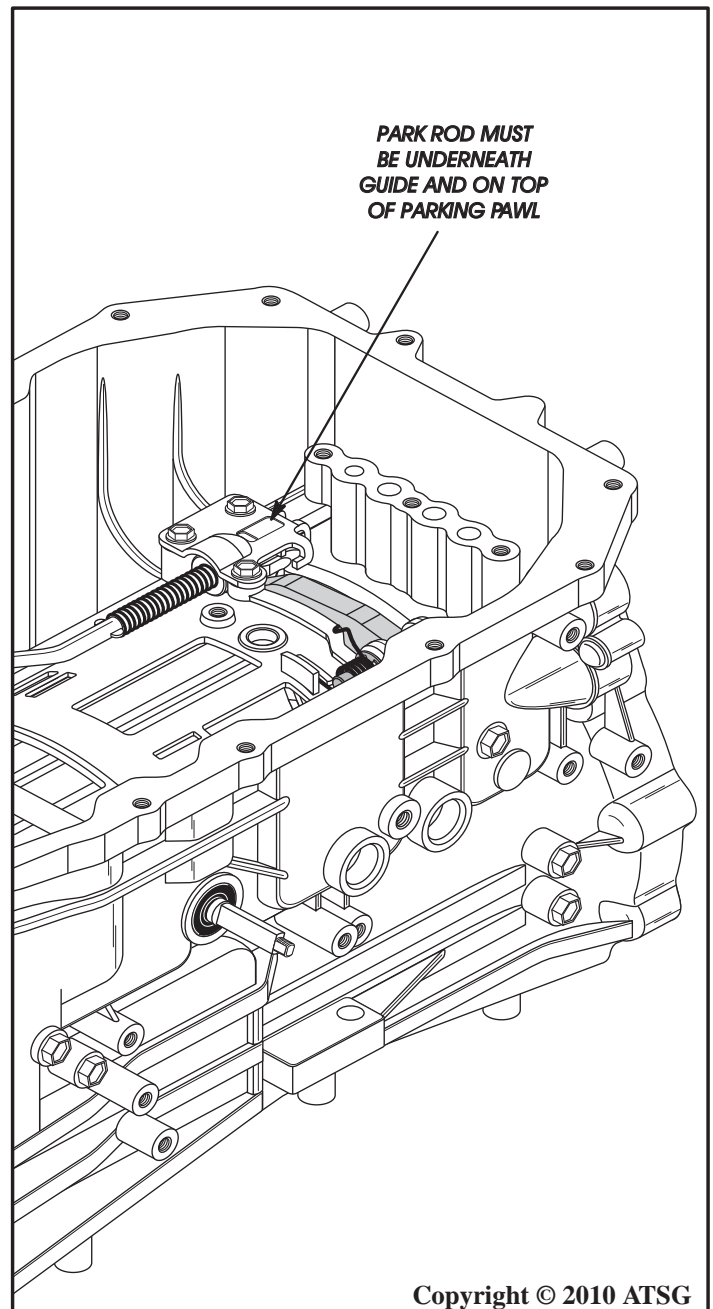

Figure 85
18. After installation, park rod must be underneath the park rod guide and on top of parking pawl, as shown in Figure 85.